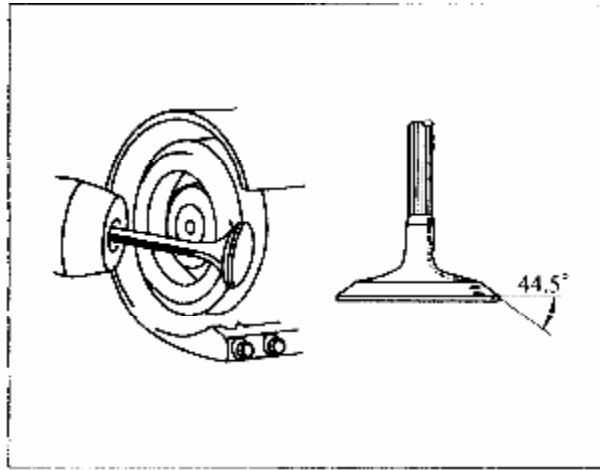

Figure 3-9 Check and Grind Valve Cone
3.1.8 Check valve cone and plate for depression, groove and carbon deposit. If necessary, grind to correct the valve cone angle (correct angle is 44.5°). The grinding extent should be as small as possible. (see Figure 3-9).